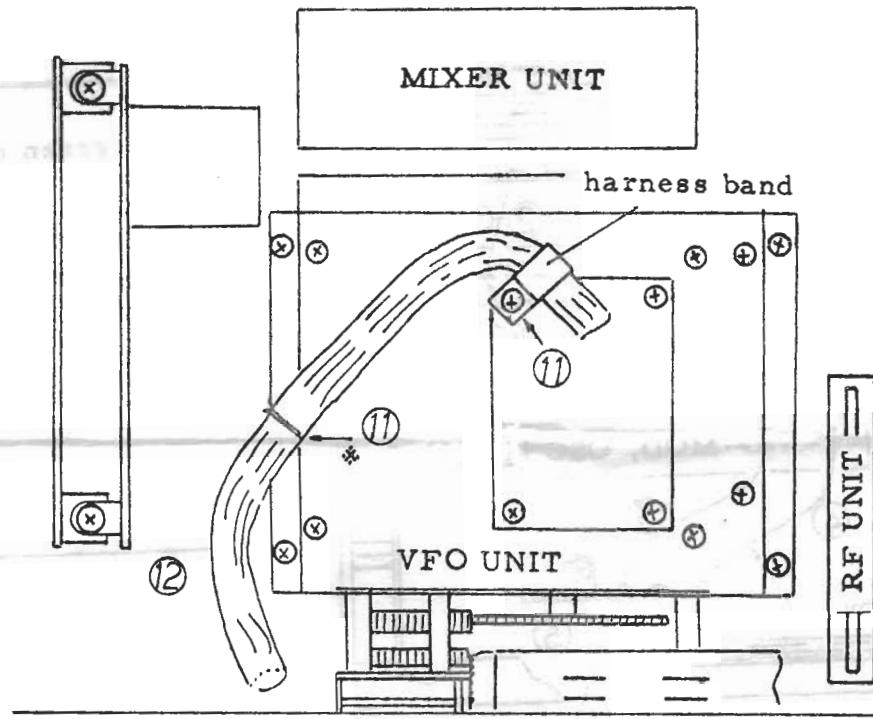

Fig. 4
- (e) Remove harness band (11) from the top of VFO unit. Cut a harness band marked *. Remove vinyl tube covering the wire harness as illustrated in Fig. 4.